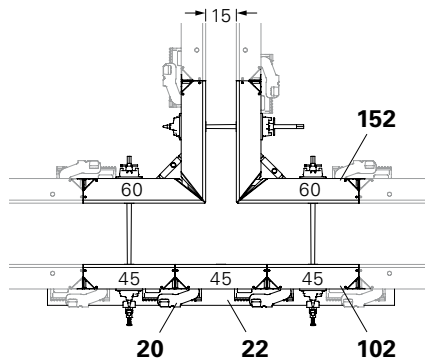

Fig. B5.01
- Wall thickness 15: Fig. B5.01